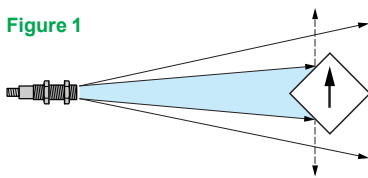

Figure 2
- The sensor is in a permanently detecting state on a fixed background of the machine and when the object to be detected breaks the acoustic beam the output switches state (Figure 2).